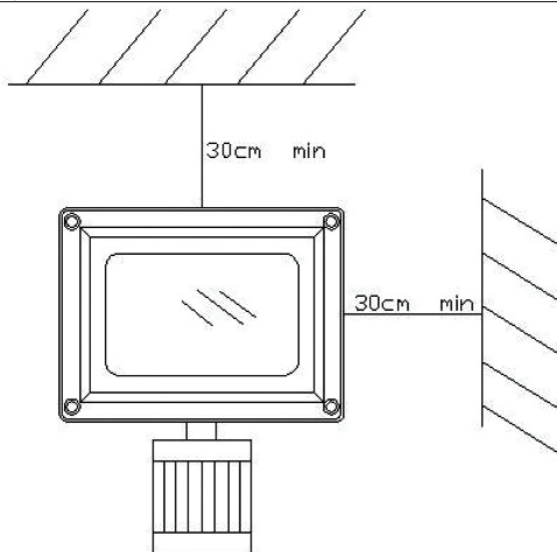

Fig. 1
- Keep minimum 30cm away from the ceiling and wall. (fig. 1)